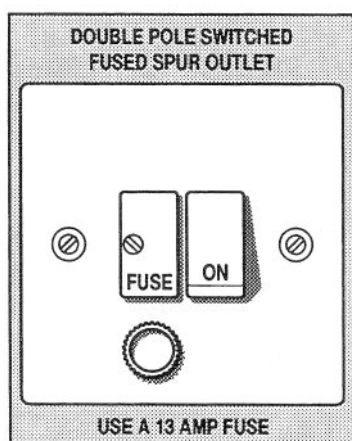
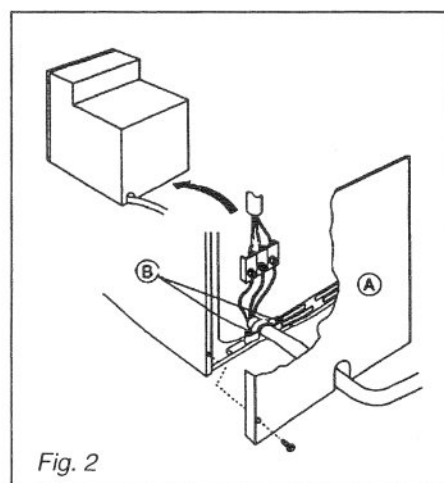

Fig. 1
Fig. 2
1. This appliance must be connected to a double pole isolating switch (fig. 1) and to the terminal block in the oven (figs. 2 & 3) using the following guide: